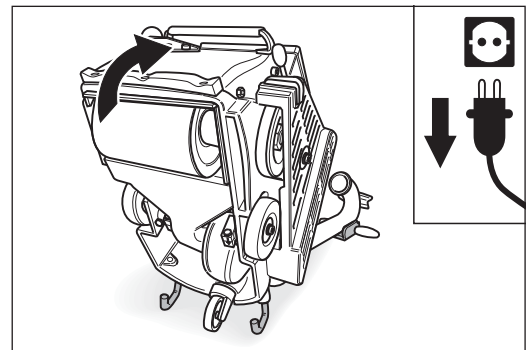

Fig. 81 **Pull the power plug out of the socket! Tilt the machine backwards. Ensure that the machine is standing securely!**
- 3 Tilt the machine backwards over the safety guards so that you can see the wheel bearings (fig. 81). **Ensure that the machine is standing securely!**
- 6 Tilt the machine backwards over the safety guards (fig. 81).